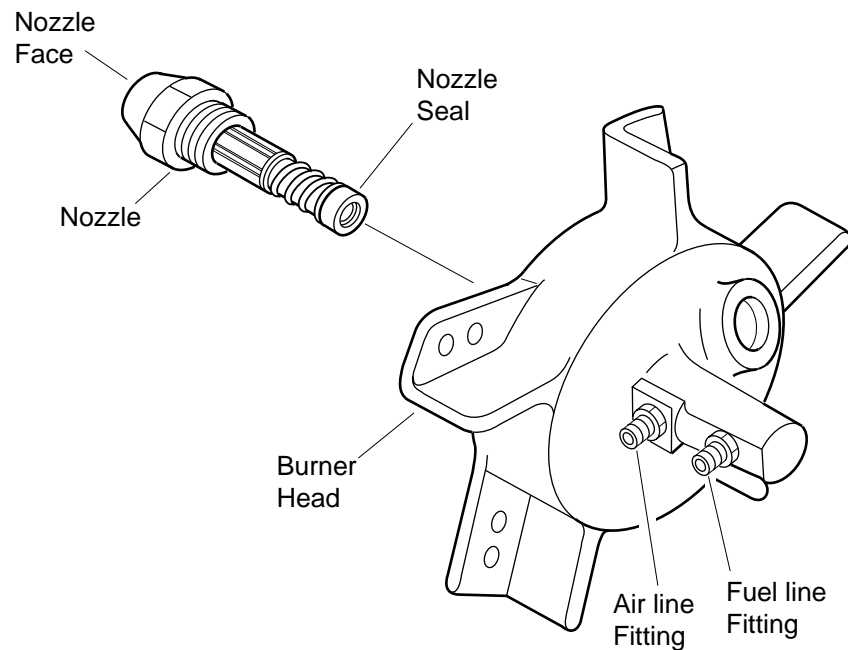

Figure 28 - Removing Nozzle, 70/90,000 BTU/Hr Models
8. Carefully remove nozzle from burner head using 5/8" socket wrench (see Figure 28).